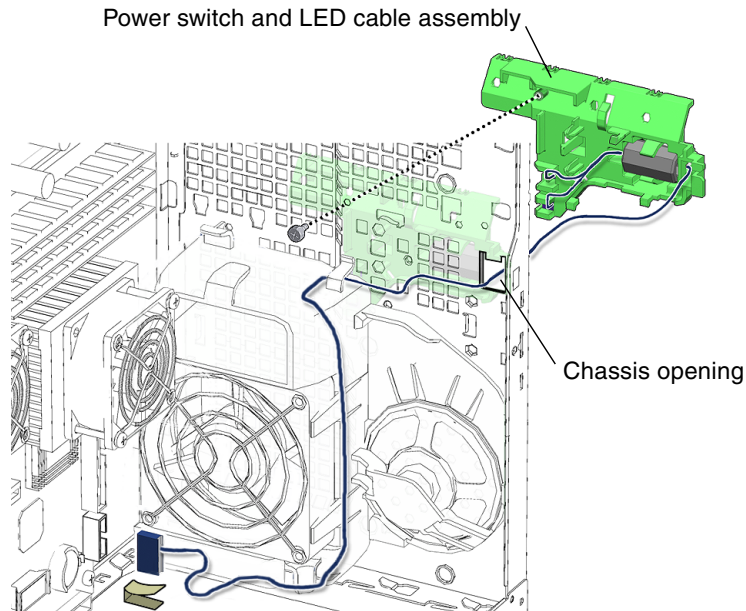

FIGURE 14-21 Releasing the Power Switch and LED Cable Assembly
6. Release the power switch and LED cable assembly (FIGURE 14-21).